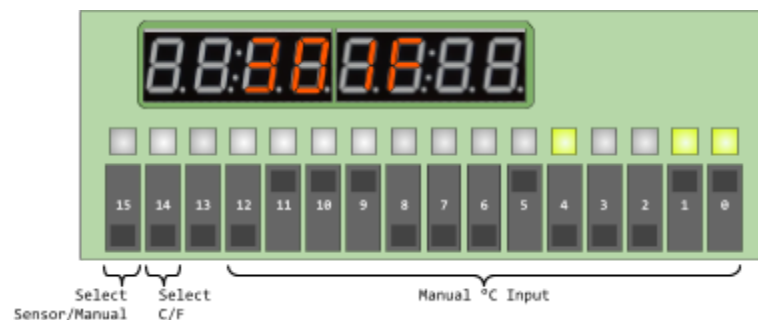

Figure 1. Nexys A7-100T Input/Output Configuration for Lab 1
In this lab, you will create an FPGA application that displays the current temperature in either Celsius or Fahrenheit on the seven-segment display, as shown in Figure 1.
In Part 2 of this lab, you will connect your modules to implement the circuit shown in Figures 1 and 2. Specifically, your circuit will use **SW[15]** to select between reading the temperature from the sensor or the manual switch input. **SW[14]** will toggle between displaying the temperature in Celsius or Fahrenheit on the seven-segment display.
- **Results:** Your results section can take many forms. This section should include any recorded measurements, tests, diagrams, or images specified by the lab document. You can include additional observation data in your lab report beyond what is specified. Each item should be numbered and labeled with a caption (e.g., "Figure 1" or "Table 1"). When including code experts in your lab report, it is recommended that these are placed in an appendix at the end of the report.